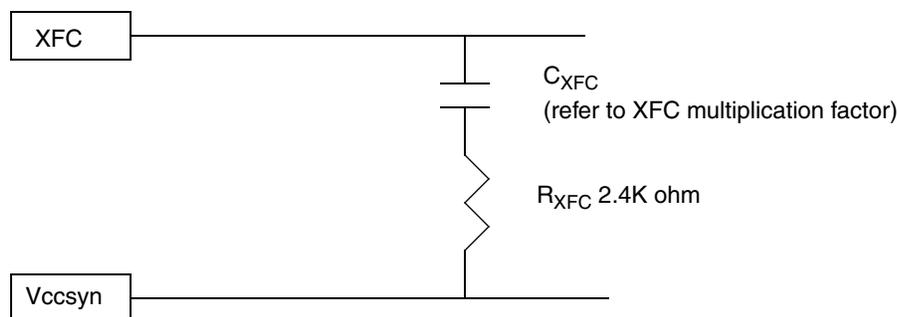

Figure 11. External PLL filter
On systems where excessive PLL jitter causes AC timing violations, a 2.4Kohm resistor (R_{XFC}) can be added in series with the specified (C_{XFC}) capacitor. As discussed in Section 3.1, “PLL Transfer Function,” this resistor/capacitor (RC) filter acts as a noise rejection circuit, thus allowing for fast clock recovery for a wider frequency bandwidth and less susceptibility to phase noise or jitter. For the best result, the XFC capacitor should be placed as close as possible to the XFC pin on the MPC8260. The 2.4Kohm R_{XFC} value stays constant for all multiplication factors. For selecting C_{XFC} capacitor values, refer to the *MPC8260 PowerQUICC II™ Family Reference Manual*. Figure 11 shows the physical connection of the XFC RC filter circuit.